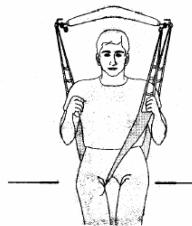

Figure 3 - Configuring the Sling - Step 1
1. Run the right leg strap under the patient's right leg and attach to the left front hook. (Figure 3) **Note: For commode use attach the right leg strap to the right front hook.**